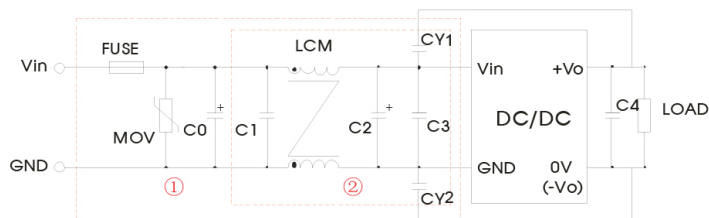

Figure 1
In Figure 1, part ① is used for EMS test, part ② for EMI filtering.